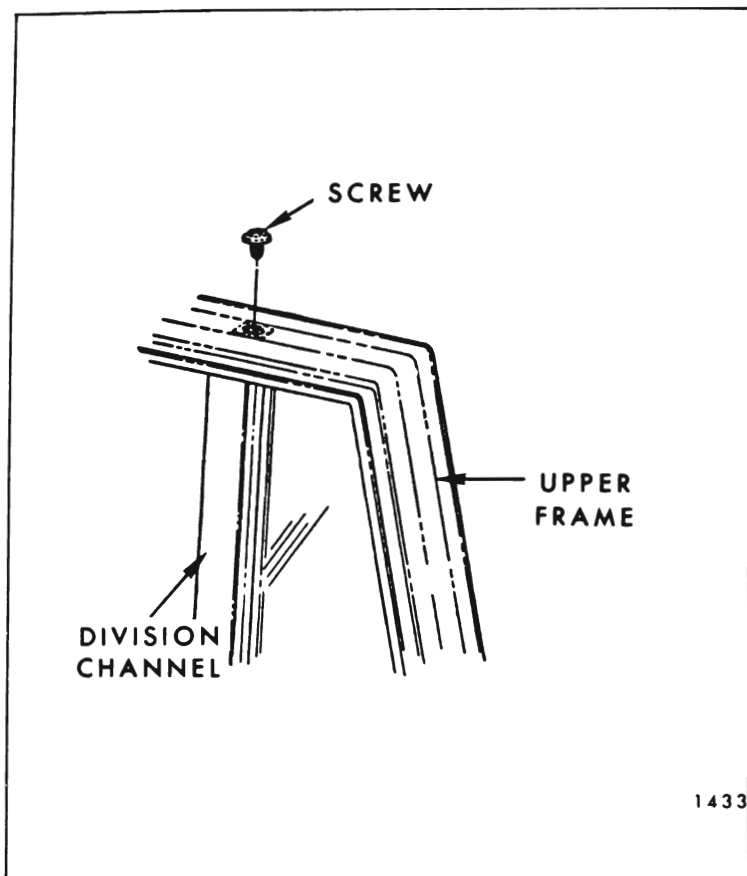

Fig. 7-129—Rear Door Ventilator Attachment - "X" Styles
4. Carefully lower door window and remove division channel to door upper frame attaching screw (see Fig. 7-129).